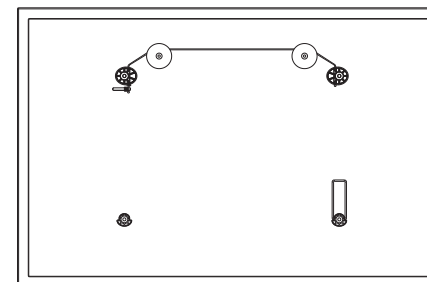

fig. 3.1
- After the wall mount has been safely secured to the wall, with 2 people carefully lift your TV and hook the wall plate rail. Make sure your TV is level and correctly hooked, as shown in fig. 3.1.